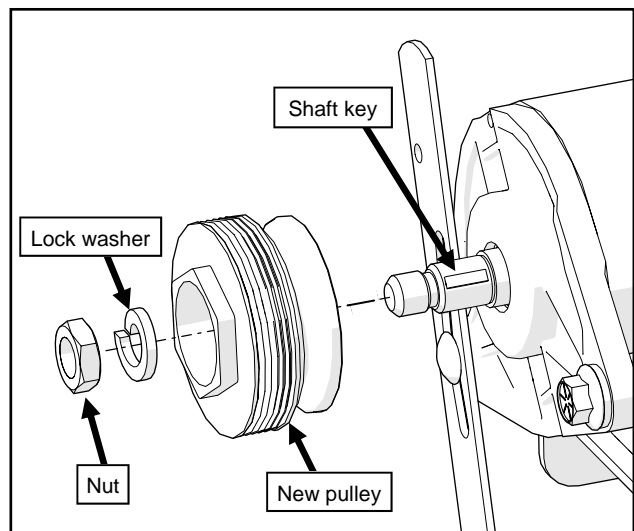

Fig. 1.4 (Install New Pulley)
- 1.4 Remove the nut, lock washer, and pulley from the starter generator drive shaft. Take care to avoid dislodging the shaft key from the starter generator. Replace the OEM pulley with the pulley provided with this kit, aligned to the shaft key. Re-install the lock washer and nut. Figure 1.4.